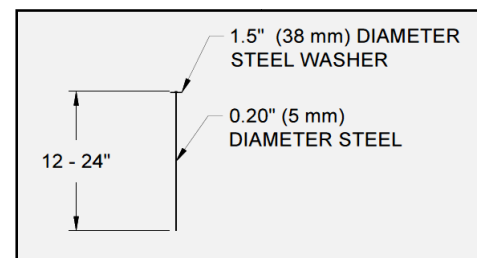

Figure 4: Securing Pin
3. Secure Landlok 300 with pins in the COS trench. Pins should be made of steel with a 0.20 in (5 mm) minimum diameter, having a 1.5 in (38mm) diameter washer at the head, and a length between 12 and 24 in (300-600 mm) with sufficient ground penetration to resist pullout (Figure 4). Longer pins may be required for looser soils. Heavier metal stakes may be required in rocky soils. Suggested placement of pins for the COS trench is along the bottom of the trench with pins on 12 in (300 mm) centers. Pins should also be installed on panel edge overlaps in the COS trench.